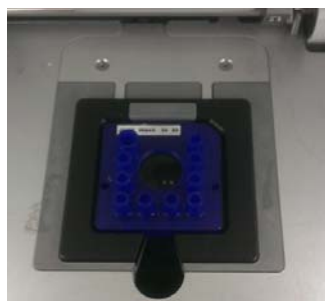

Figure 8. Chip in the LabChip GX Touch/GXII Touch instrument.
- 6 Place the chip on the chip heater block in the LabChip GX/GXII Touch instrument (Figure 8) and close the chip door securely.